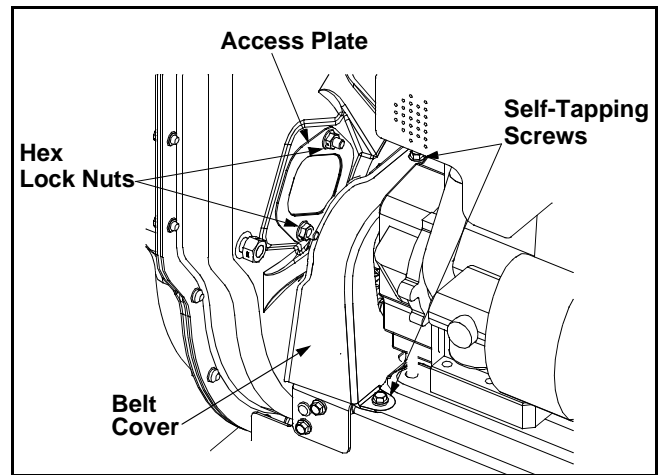

Figure 11
- Remove the plastic belt cover on the front of the engine by removing the two self-tapping screws. See Figure 11.
- Remove the access plate by removing two hex lock nuts. See Figure 11.
- Remove the plastic belt cover on the front of the engine by removing two self-tapping screws. Refer to Figure 11.